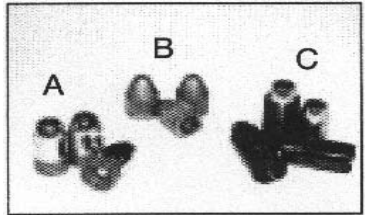

Figure 1
1. **POWERBELT BULLETS™** – PowerBelt Bullets are conical projectiles with a plastic base. The base or "belt" provides a perfect gas seal, eliminating accuracy robbing blow-by. Like sabots, the PowerBelt Bullet's patented snap-on base creates a perfect gas seal, providing consistent pressures and unsurpassed accuracy. But unlike sabots, PowerBelt Bullets are easy to load and do not require cleaning after every shot. And they are full caliber sized, so you get the most knock down power possible out of a muzzleloader. PowerBelt Bullets are available in .45, .50, and .54 calibers, copper coated or pure lead, with hollow points or AeroTips, and in a variety of grain weights. They are the #1 selling muzzleloading bullet on the market and the only bullet recommend for CVA in-line rifles. Because of the design and the precision with which they are made, all currently available weights of PowerBelt Bullets can be safely used on your CVA in-line rifle. (Figure 1-A)
2. **CONICAL BULLETS** such as the CVA Buckslayer Bullet and others of this type provide acceptable accuracy in all CVA firearms as well as increased knock down power desired by hunters. These projectiles are best suited for use in medium to fast twist rifling barrels which stabilize the bullet more rapidly. Do not use a conical (other than the PowerBelt) heavier than 400 grains. (Figure 1-B)
3. **SABOTED BULLETS** – Modern sabots from various manufacturers have been tested and provide acceptable accuracy in CVA firearms when complying with the sabot manufacturer's recommendations for usage. Caution: Do not use a sabot bullet weighing more than 300 grains. (Figure 1-C)